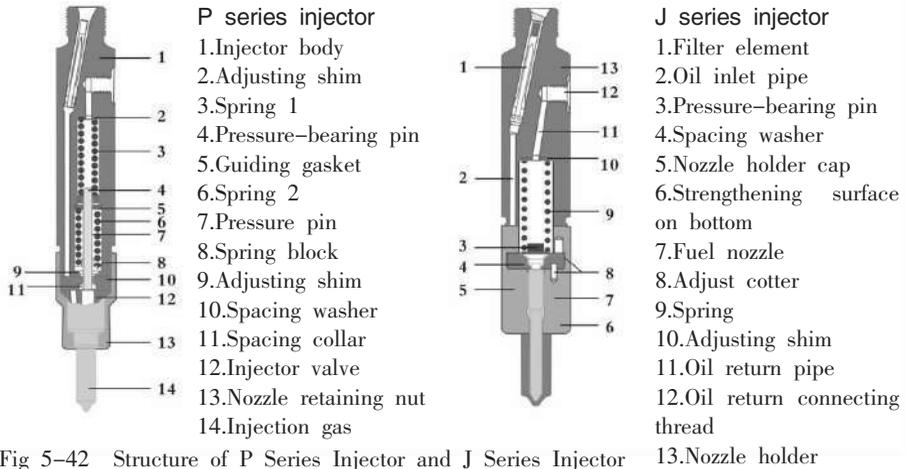

Fig 5-42 Structure of P Series Injector and J Series Injector
5.7 YTO series diesel engines use J series and P series injectors (see Fig 5-42). The opening pressure of J series injectors is 19.6~20.8MPa. The opening pressure of P series injectors is 25~26.2MPa. Adjust or replace the matching parts on the test-bed by professionals.